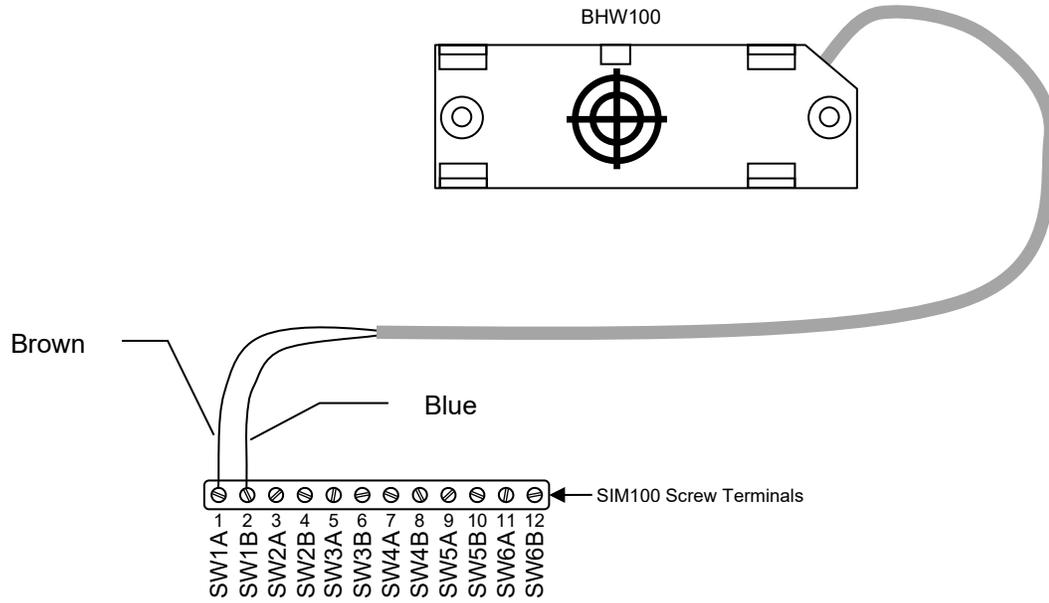

Figure 1 – Wiring Diagram
Please follow these instructions to connect the BHW100 to the NMEA 2000 network via a Maretron SIM100 Switch Indicator Module. The wiring diagram appears in Figure 1 on the reverse of this page. The diagram shows a connection to channel #1, but connections to other channels are similar.
1. The BHW100 cable contains one blue and one brown wire. Connect the brown wire to a free switch channel “A” terminal on the SIM100. The example in Figure 1 shows the detector connected to switch channel 1 with the brown wire connected to “SW1A”.
2. Connect the blue wire to the corresponding “SWxB” terminal. The example in Figure 1 shows the detector connected to switch channel 1 with the blue wire connected to “SW1B”.